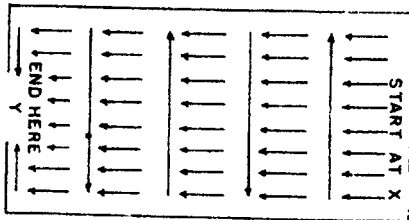

Figure 31. Push Broom Sweeping Pattern.
- (1) Start sweeping at end of corridor next to wall. (fig. 31)
- (2) Sweep in manner indicated in figure 31.
- (3) Gather sweepings in pile at end of corridor. Using counter brush, pick up sweeping into dustpan and empty dustpan into dustbox.
- (4) Collect sweeping tools.
- (5) There should be no dust streaks, no dirt under radiators, in corners or where dirt was gathered into dustpan.
- (6) Clean elevator floor same as adjacent area.